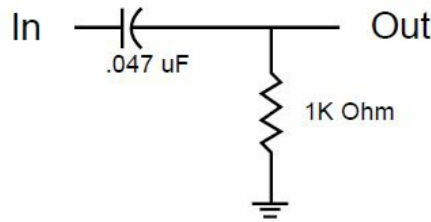

Figure 4. Differentiator Circuit
- **Procedure:** Load each channel to 1 ohm. Inject a 1 kHz differentiated (or 10% duty cycle) square wave. See figure 4. Increase output level until current limit occurs. Current limit should occur at 39 ± 6 Amps (39 Vpk). Observe clean (no oscillations) current clipping.